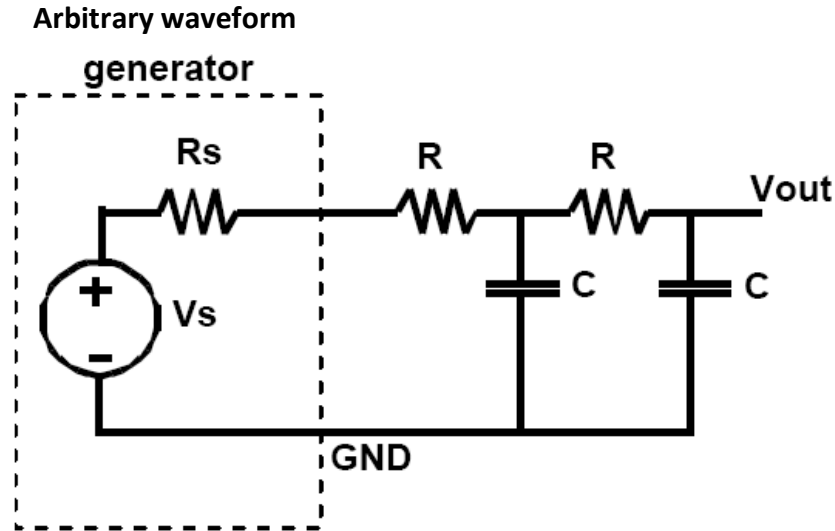

Figure 2. Two cascaded RC sections.
Figure 2 shows two sections of the first-order RC circuit connected in series to illustrate a simple technique to model computer bus systems (PCI bus, SCSI bus, etc.).
1. Build the circuit in Figure 2, using 2 identical resistors $R = 10\text{ K}\Omega$ and 2 identical capacitors $C = 0.01\text{ }\mu\text{F}$. Use the function generator settings as in section 7.2 above and display it on Channel 1.
1. From the measurements in section 7.3 item 2, are the delay times for the cascaded circuit in Figure 2 (of 2 identical RC sections) twice as large as the delay times for the simple RC circuit? Do the delay times scale with the number of sections? Explain.